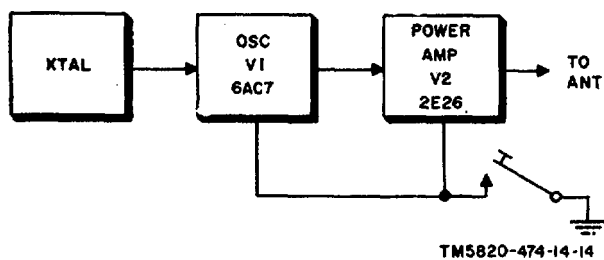

Figure 14. Radio Transmitter T-784/GRC-109, block diagram.
42. Block Diagram (fig. 14)
The signal path in the transmitter is shown in the block diagram (fig. 14) and is discussed in a and below. For complete circuit details, refer to paragraphs 43 through 46 and to the overall schematic diagram (fig. 64).